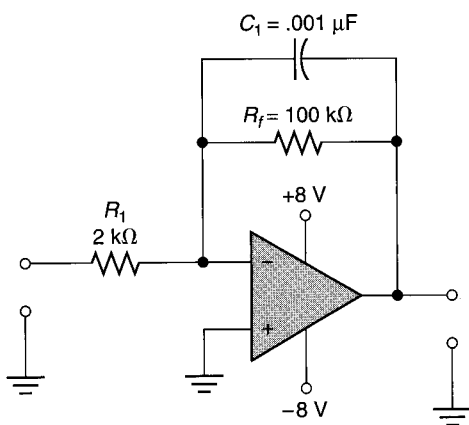

FIGURE 16.38
5. Determine the cutoff frequency for the circuit shown in Figure 16.38.
6. Determine the frequency at which the circuit shown in Figure 16.38 will start to lose its linear output characteristics.